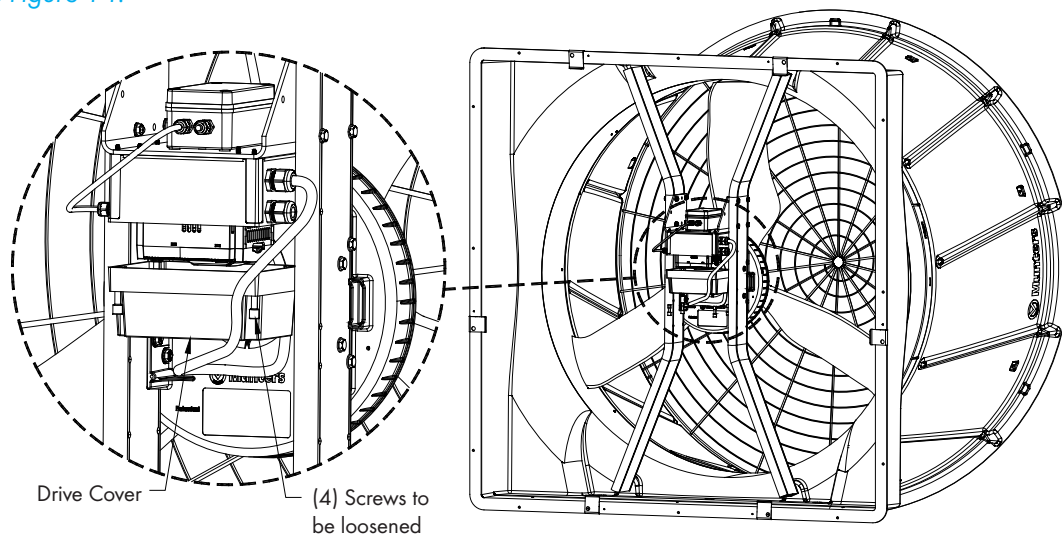

Figure 14
If needed to access the Black Plastic Cover Cap over the M25 Hex Nut on the back of the Munters Drive Motor, remove the Drive Cover by loosening the (4) Screws holding the cover on. Set Cover aside to be reused later. See Figure 14.